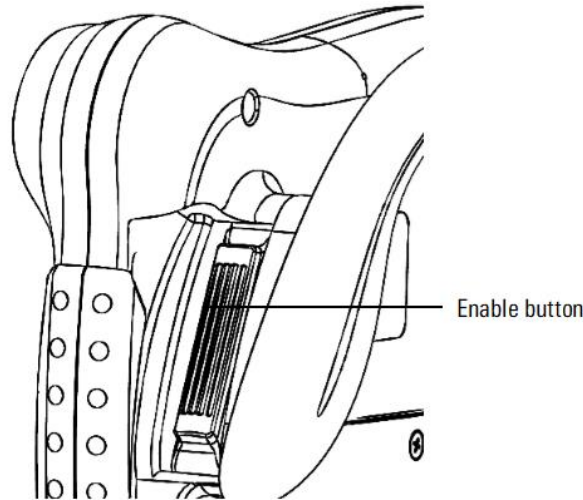

Figure 2-9 Teach pendant enable button
Step2.Gently buckle the enable key (located on the right side of the teach pendant in Figure 2-9) to make it stay in the second key position, and the robot is then enabled (a "click" sound is heard). At the same time, the lightning icon in status bar is displayed as "⚡" (highlighted), the "Run" indicator of the control cabinet turns on, and then manual operation can be carried out (you need to keep pressing the enable key).